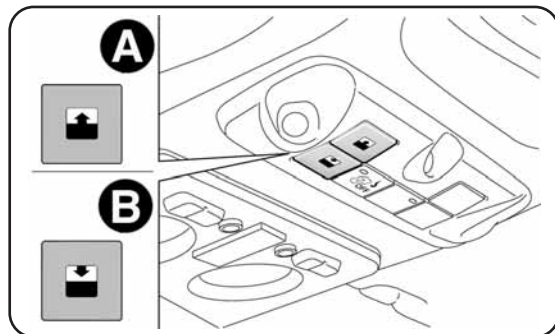

fig. 63
The sunroof can be operated only with the ignition key turned to MAR. The controls A and B-Fig. 63 on the front courtesy light trim, operate the sun roof opening/closing functions.
Press button A-fig. 63 and hold it pressed: the front glass panel will assume the spoiler position. Press button A again and operate the control for longer than half a second to move the roof window to an intermediate position ("Comfort" position).
- press button B-fig. 63 until the roof is entirely closed. Then release the button;